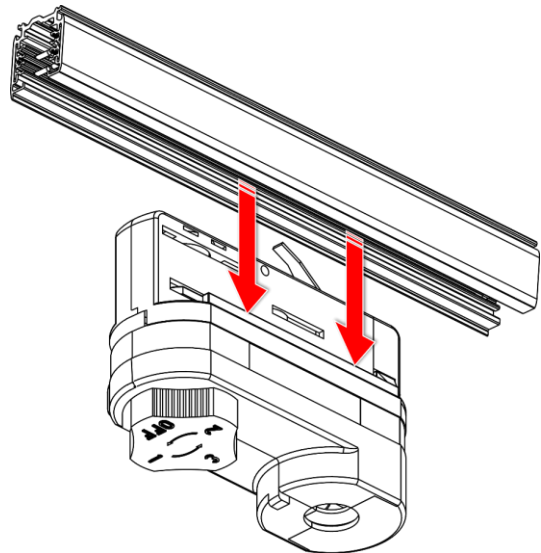

Fig. 21
- 05) Pull the **track adapter (01)** from the track (see Fig. 21).